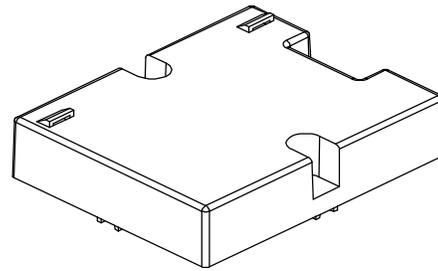

Fig. 16 — Enthalpy Sensor
6. Place enthalpy sensor, shown in Fig. 16, in location suitable to meet manufacturer's requirements.